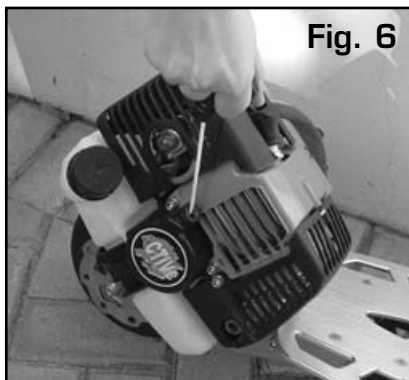

Fig. 6
14. Pull the RECOIL STARTER briskly, making sure to hold the handle in your grasp. (Fig 6).